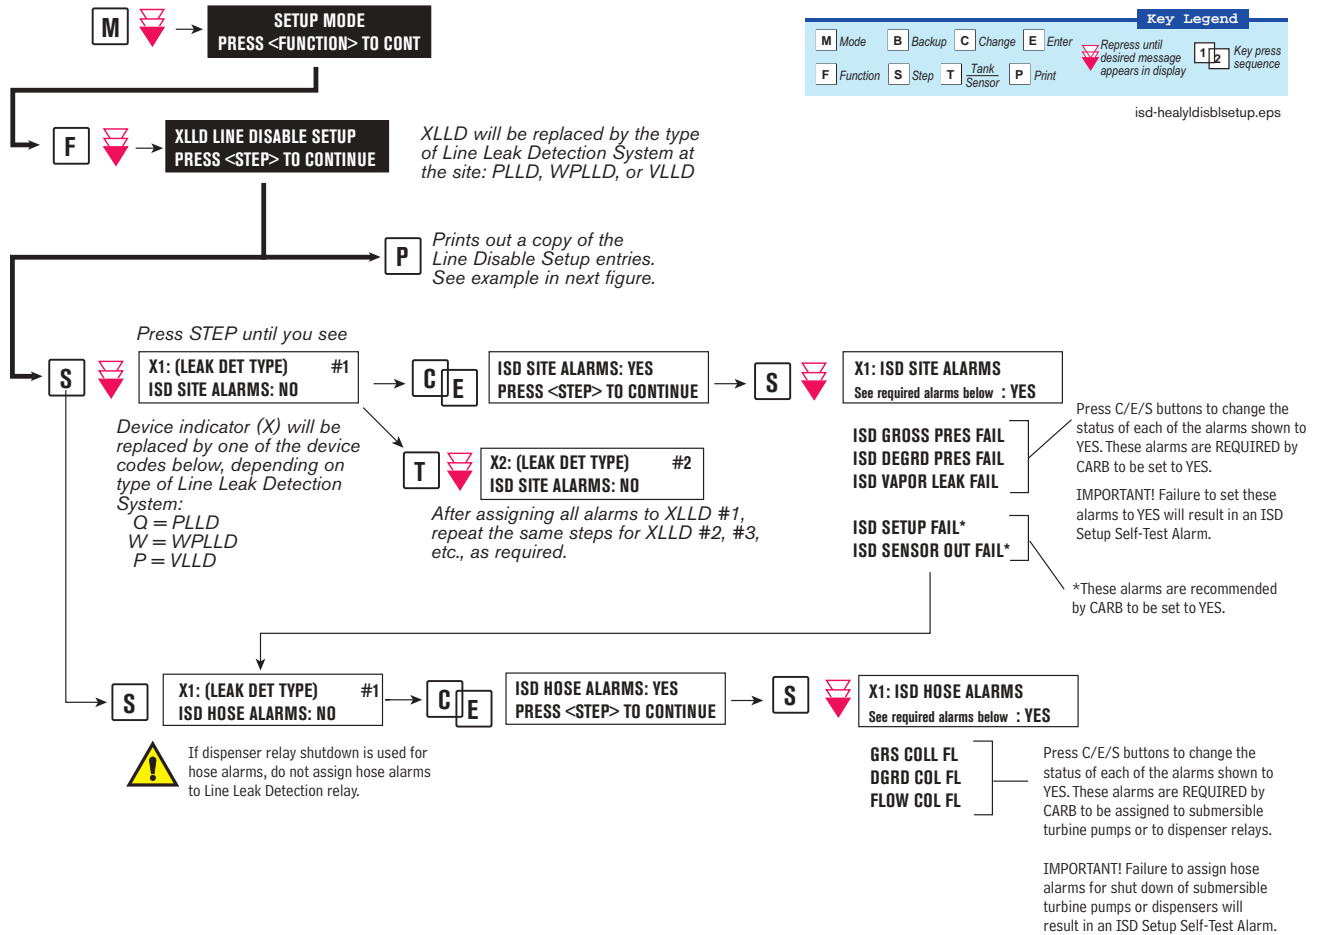

Figure 11. Assigning ISD Shut Down Alarms in Line Leak Disable Setup
- XLLD Line Disable Setup - For ISD sites with line leak detection - Figure 11
Figure 11 illustrates the setup steps required to assign ISD Shut Down Alarms to a tank having a line leak detection system installed.